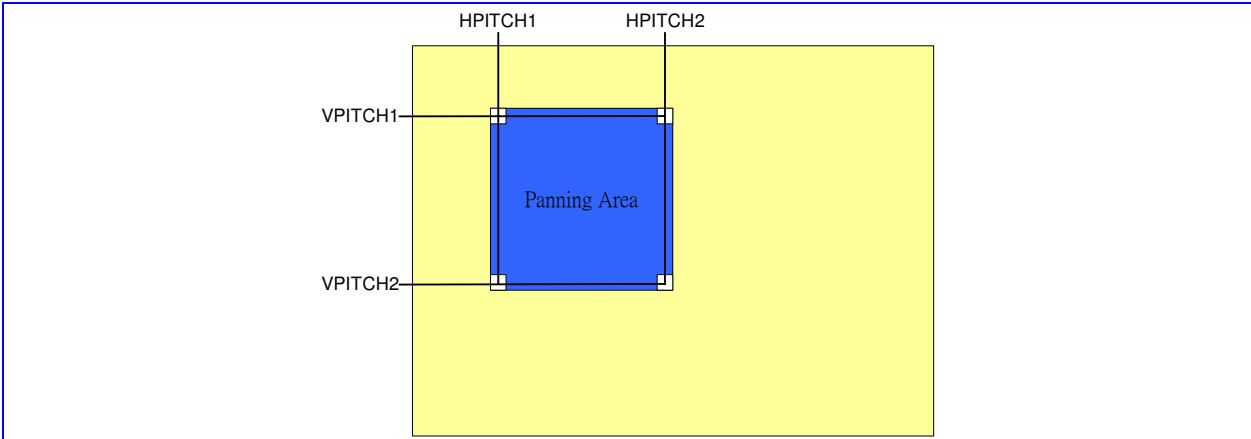

Figure 125 Picture Panning
- PAN** Picture panning. Once this function is enabled, only the pixels in the region specified by HPITCH1, HPITCH2, VPITCH1, and VPITCH2 are dumped. The PITCHs are defined as **Figure 125**.